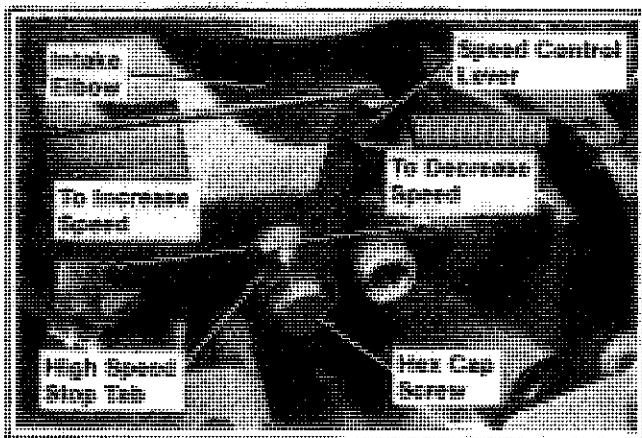

Figure 6A-18. High Speed Adjustment - Remote Throttle Control.
1. Loosen the hex cap screw securing high speed stop tab to intake elbow. Refer to Figure 6A-18.